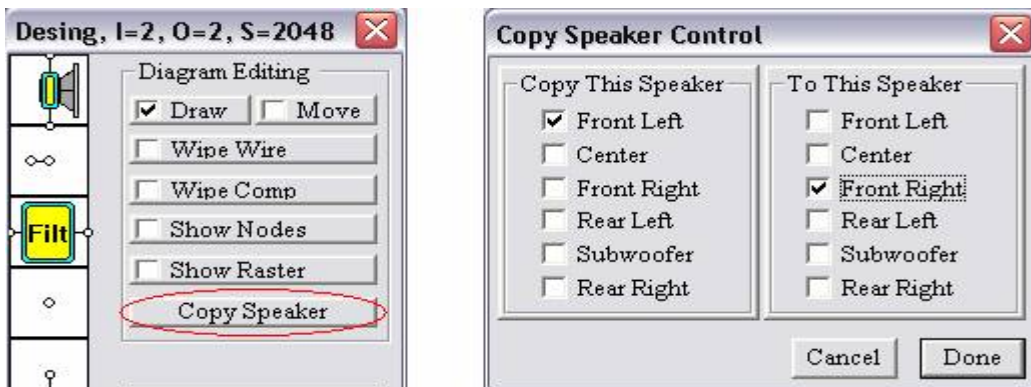

Figure 141. Copy Speaker and Copy Speaker Control dialog.
- With the system now designed we can move on to the Right front speaker. Since this example is a simple stereo system this is easily accomplished by opening the Copy Speaker control from the System Design control dialog, Figure 141.